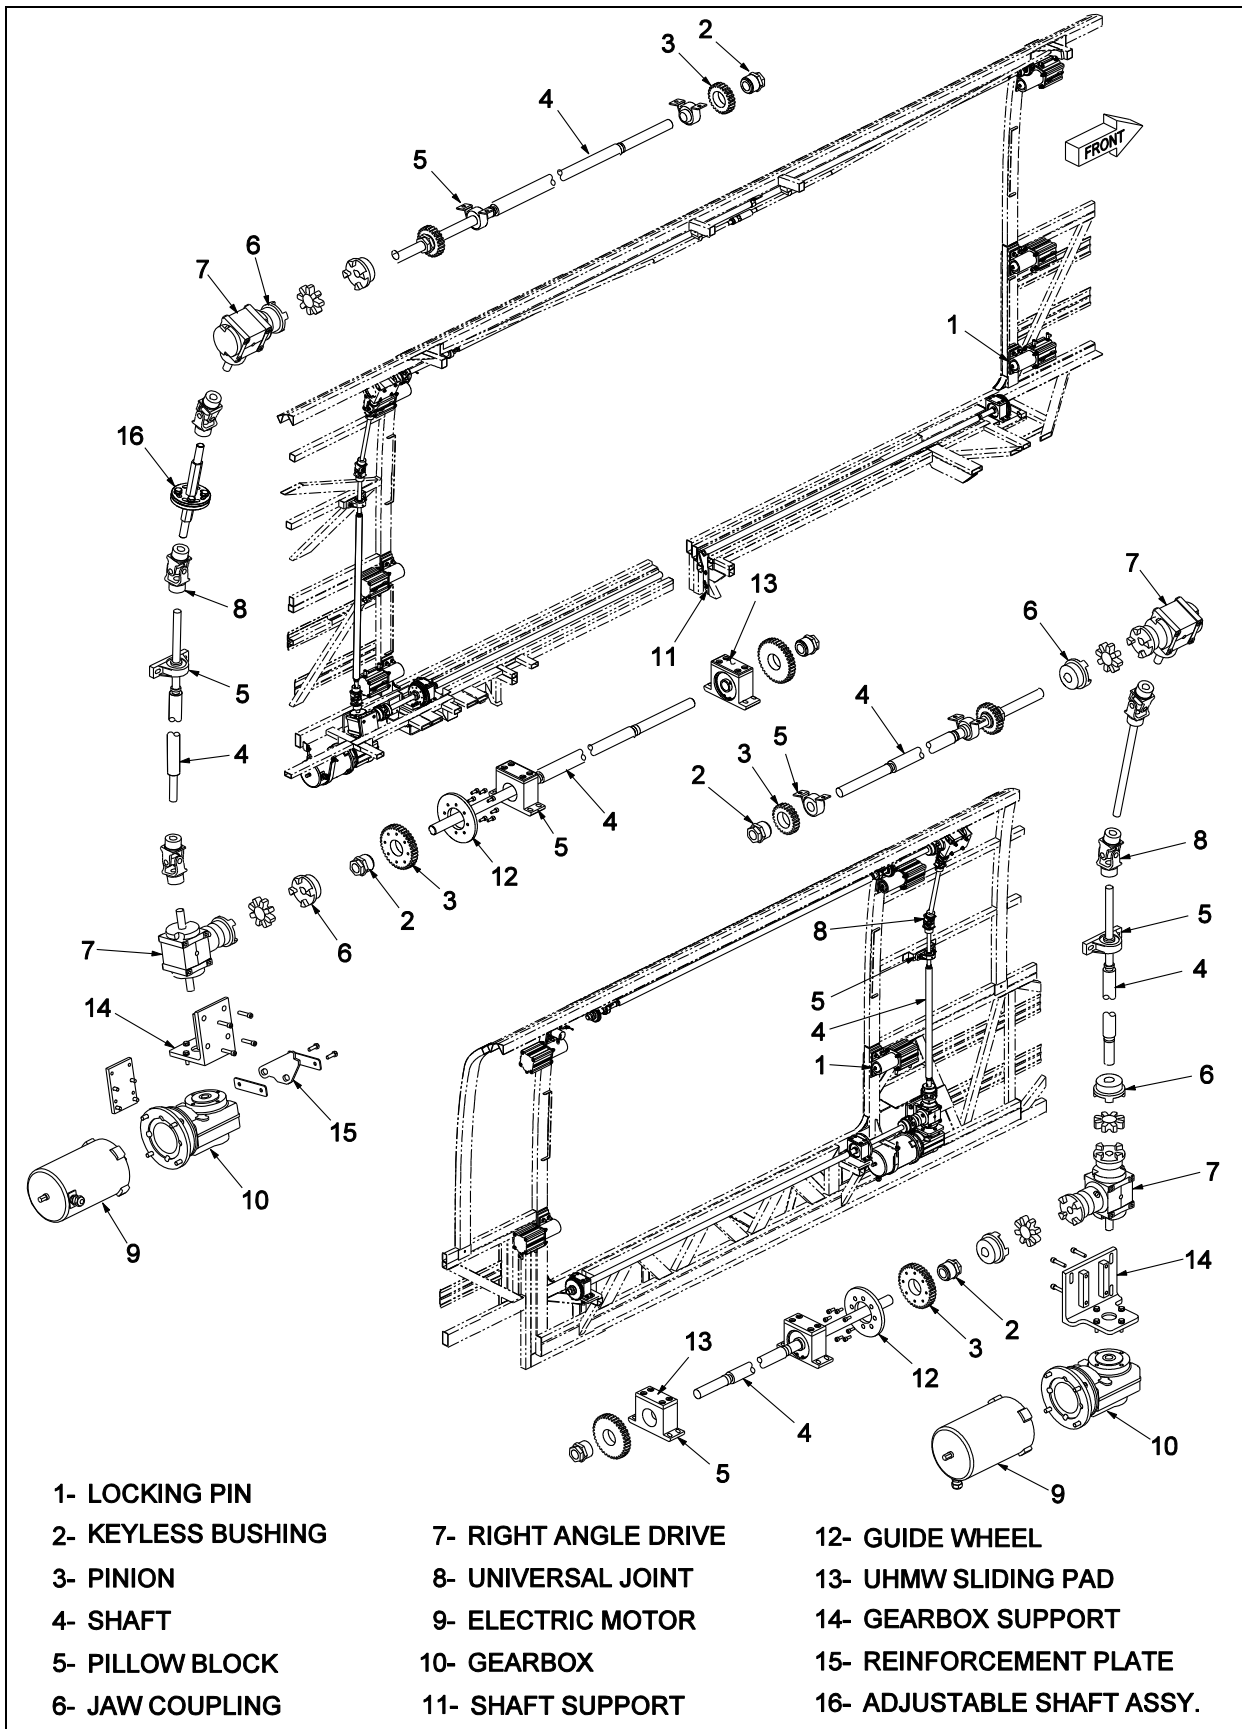
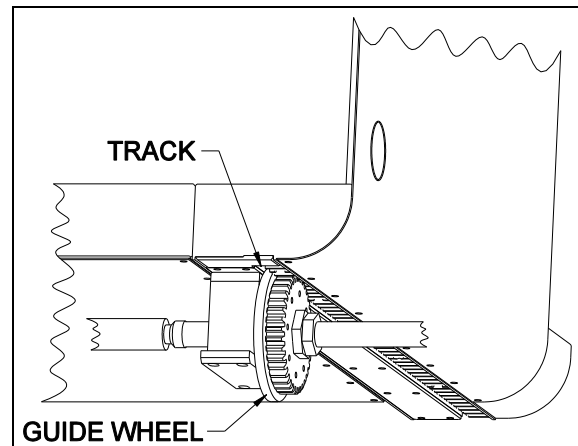

FIGURE 1 : SLIDE-OUT MECHANICAL COMPONENTS
FIGURE 9 : GUIDE WHEEL TRACK
8. Disengage both upper and lower shaft jaw couplings (figure 1 item 6).
(figure 1 item 3 and 13). Slide the free pinions to center them on their racks. Also, make sure that the guide wheel is in its track (figure 9 and figure 1 item 12).
7. Re-engage respectively the upper and lower shaft jaw couplings (figure 1 item 6). If necessary, realign the right angle drive (see section 8).